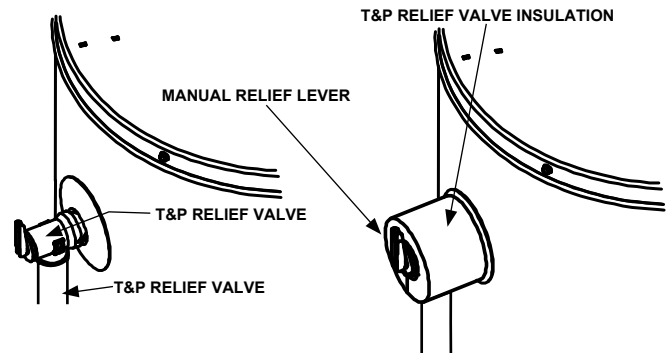

FIGURE 16.
Piping, fittings, and valves should be installed according to the installation drawing (Figure 16). If the indoor installation area is subject to freezing temperatures, the water piping must be protected by insulation.
1. Locate the temperature and pressure relief valve on the water heater (also known as a T&P relief valve). See Figure 16.
3. Spread the slit open and fit the insulation over the T&P relief valve. See Figure 16. Apply gentle pressure to the insulation to ensure that it is fully seated on the T&P Relief Valve. Once seated, secure the insulation with duct tape.
IMPORTANT: The insulation or tape should not block or cover the T&P relief valve drain opening. Also, the insulation or tape should not block or hinder access to the manual relief lever (Figure 16).